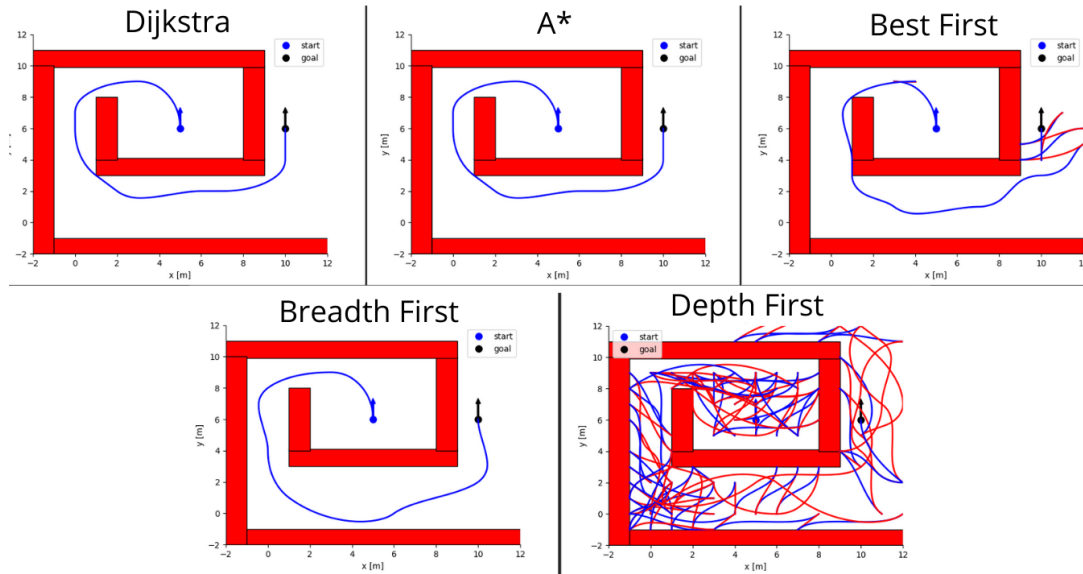

Figure 2: Planned trajectories for Mission 5 with different planners. Blue: forward motion, red: reverse motion.
- Each planner was run on Mission 5. The resulting paths are shown in Figure 2.